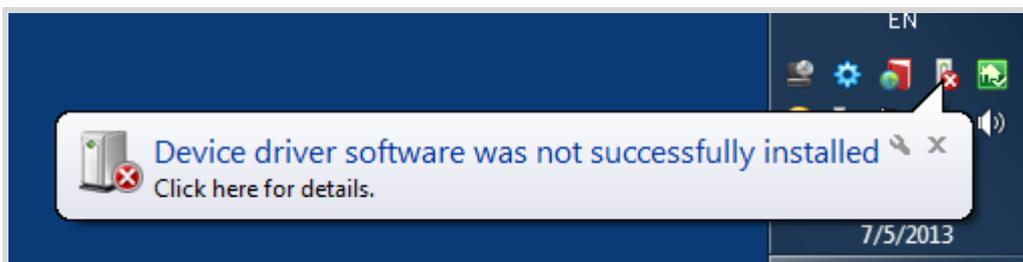

Figure 2. The "Windows" driver installation failed
- Wait until the Windows7 failed to install the driver(Figure 2)